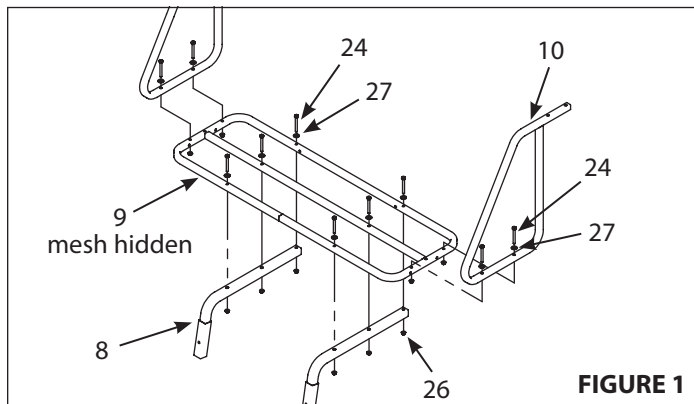

FIGURE 1
1. Attach the J-pipes (8) to the bottom of one of the mesh platforms (9) using six 1/4-20 x 2-1/4" bolts (24), locknuts (26) and steel washers (27). This now makes this mesh platform the foot platform. **SEE FIGURE 1.**
2. Attach the side braces (10) to the top of the foot platform (9) using four 1/4-20 x 2-1/4" bolts (24), locknuts (26) and steel washers (27). **SEE FIGURE 1.**